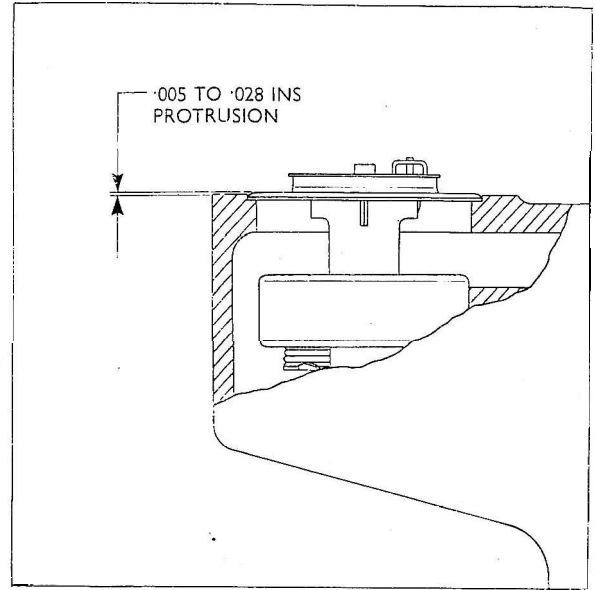

Fig. 51
62. Fit the thermostat to the cylinder head. The current shrouded by-pass type may be used on all Major engines but the previous type must not be fitted to Mk. II and Mk. III engines. (See "The Cooling System.") Check that the thermostat flange protrudes 0.005 to 0.028 in. (0.13 to 0.71 mm.) above the cylinder head (see Fig. 51).